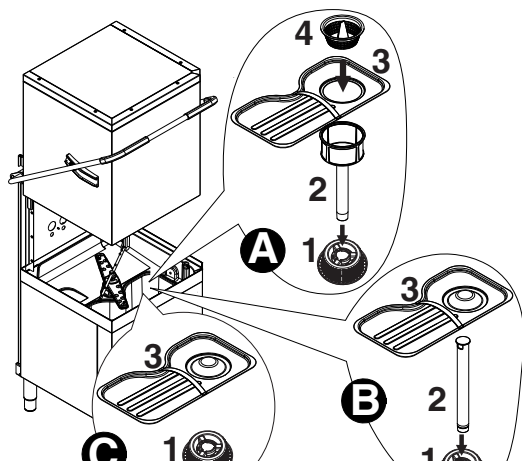

Figure 24 Filters and overflow
- Replace the filter and the overflow (Figure 24).